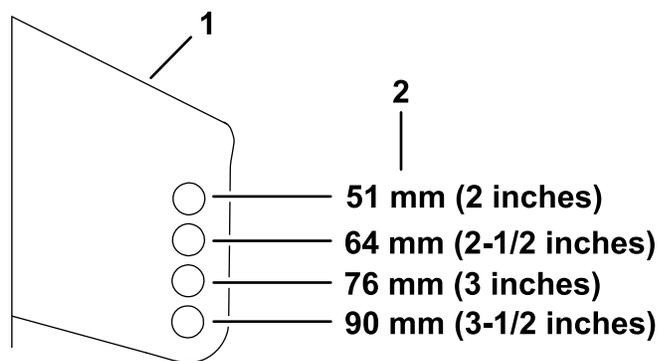

**Figure 29**
4. After adjusting the height of cut, adjust the anti-scalp rollers by removing the mounting hardware (Figure 29).
6. Torque the locknut (3/8 inch) to 41 to 47 N·m (30 to 35 ft·lb) as shown in Figure 29.